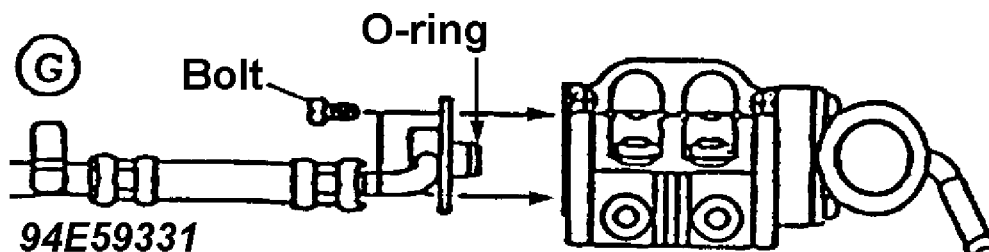

Fig. 52: Primary Fuel Distributor Outlet Modified Hose
26. Install the modified fuel hose on the primary fuel distributor outlet side. See Fig. 52.
- \* Replace the bolts with modified ones. See letter G in Fig. 52.